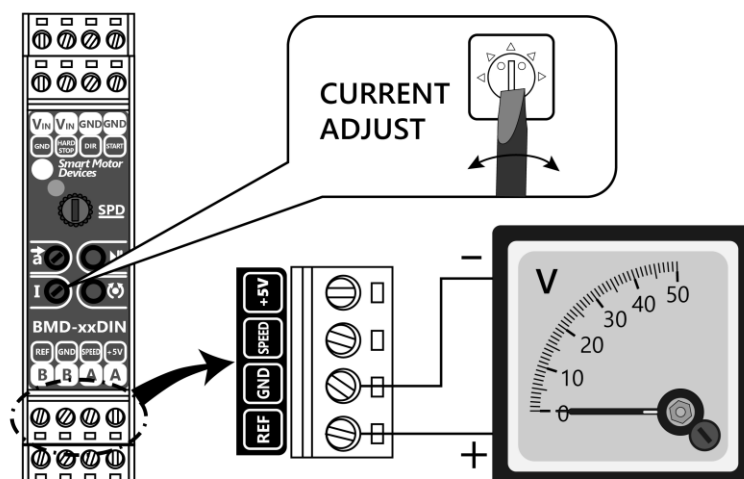

Fig. 3. Connection of a voltmeter for setting a motor maximum current limit.
- 8) Using the potentiometer «CURRENT ADJUST», set the maximum motor current. Adjust the «CURRENT ADJUST» potentiometer and control the set current limit by a voltmeter, connected to «GND» and «V_{ref}» terminals (Fig.3). The motor current limitation can be calculated as: